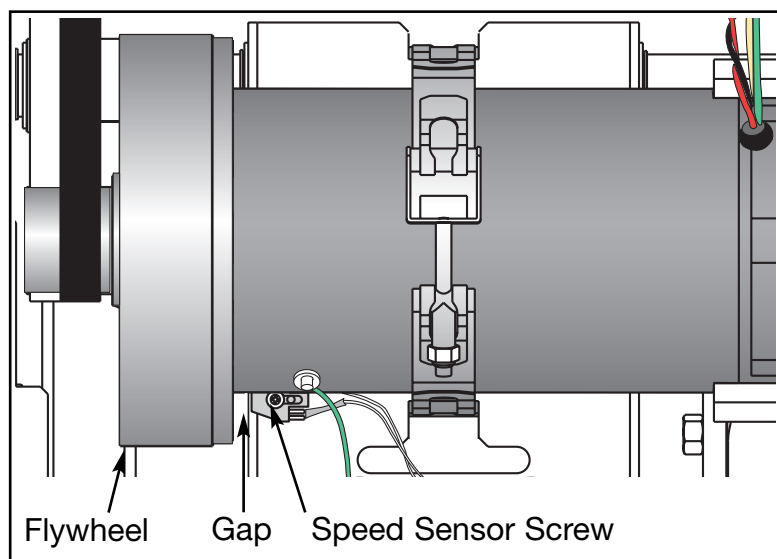

Figure 3
- A. Turn the main power switch on the left side to the off (O) position.
- A. Using a Phillips head screwdriver, loosen the screw that attaches the speed sensor to the motor saddle. See Figure 3 (speed sensor screw).
- B.** Adjust the gap between the speed sensor and the flywheel to 3/16" (.48 cm) and tighten the screw. See Figure 3.